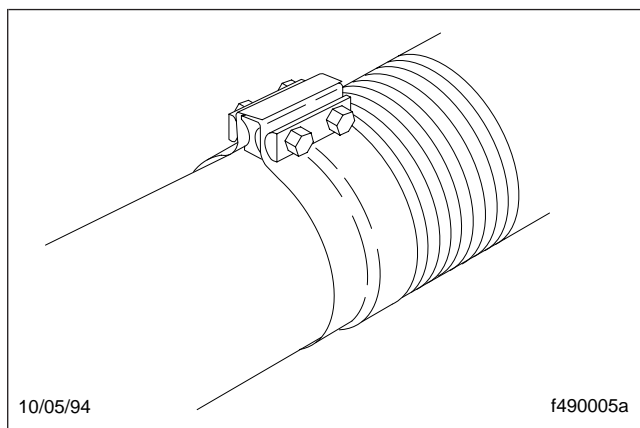

Fig. 1, Wide-Band Exhaust Clamp
3. Check for leakage at each wide-band exhaust clamp, see Fig. 1. If leakage exists, tighten the nuts on Torca "Torctite" exhaust clamps 40 to 60 lbf-ft (54 to 81 N-m). If leakage persists, install a new wide-band exhaust clamp. See **Section 49.00** of the *Shuttle Bus Chassis Workshop Manual* for procedures.